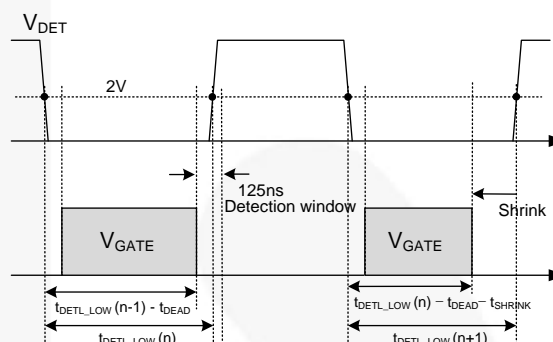

Figure 12. Gate Shrink by Minimum Dead Time Detection Window
- (a) When insufficient dead time is detected in the previous switching cycle. When the DETL goes HIGH within 125 ns of detection window after SR gate is turned off, the SR gate drive signal in the next switching cycle is reduced by $t_{\text{SHRINK-DT}}$ (about 1.25 μs) to increase the dead time, as shown in Figure 12.